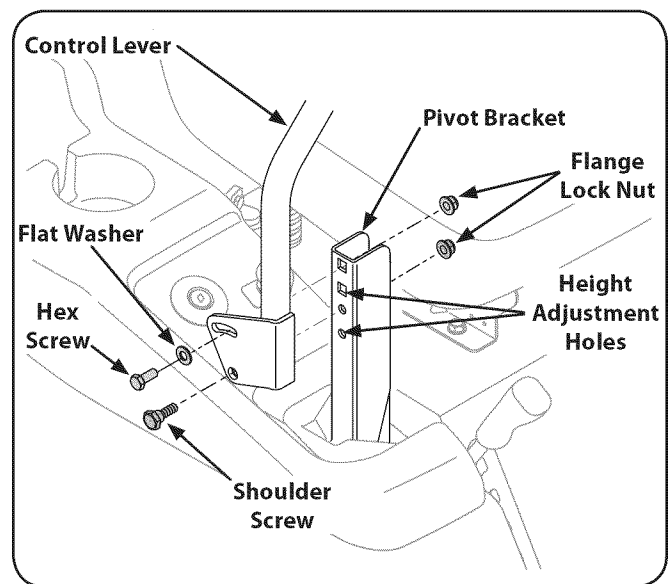

Figure 6-6
2. While supporting the control lever to keep it from falling, remove the hex insert flange lock nut and shoulder screw from the bottom of the control lever and pivot bracket. Refer to Fig. 6-6.
1. If not already loose, loosen the flange lock nut and rotate the control lever either forward or rearward to the desired position. See Fig. 6-6.